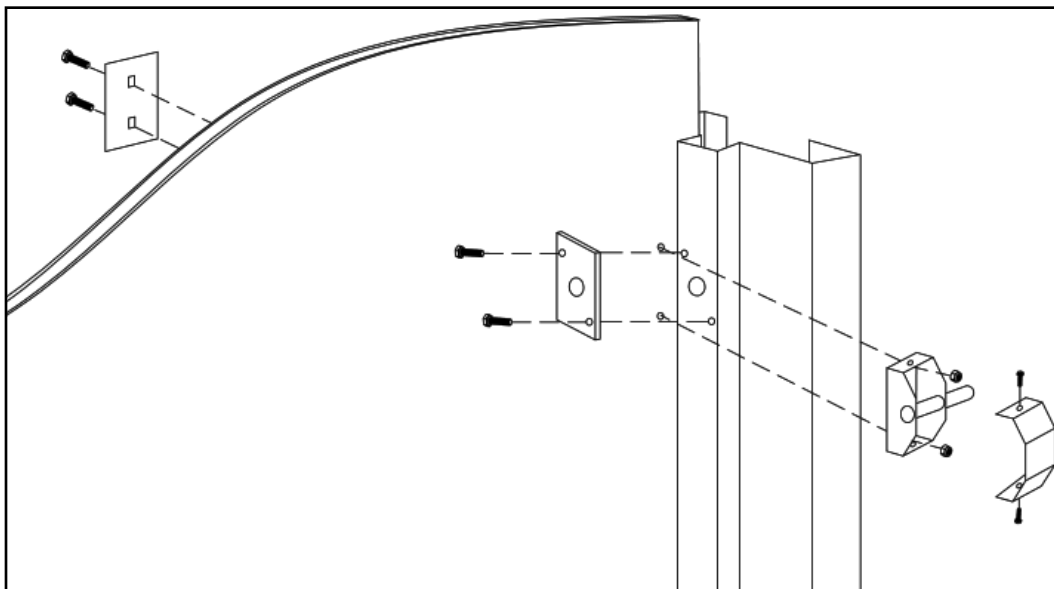

FIGURE 7
Drill two (2) holes in the door all the way through, making sure they are level. Then drill a small pilot hole on the mark in the door jamb stop. Then drill a 9/16" hole using the pilot hole in the door jamb stop. From the outside of the door, install the deadbolt mounting plate using two (2) supplied 1/4" carriage bolts by pushing through the plate and door. Install deadbolt on 1/4" carriage bolts on the inside and secure with locknuts. (See Figure 7)